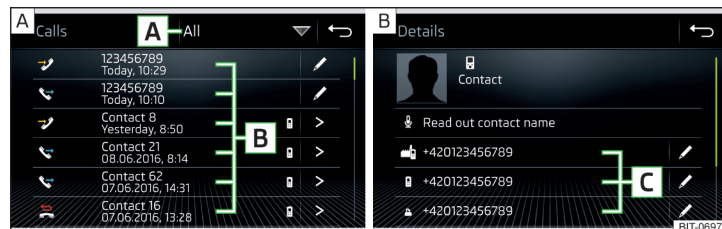

Fig. 184 Call history / Contact details
- In the *Telephone* main menu, tap on the function surface and a call list will be displayed » Fig. 184 - **A**.